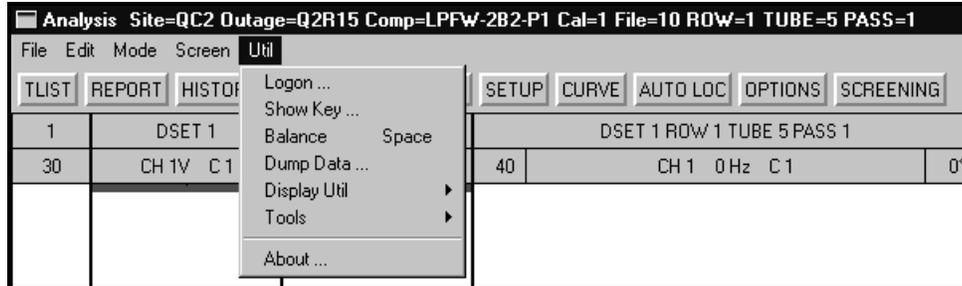
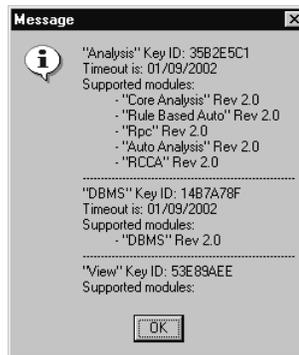
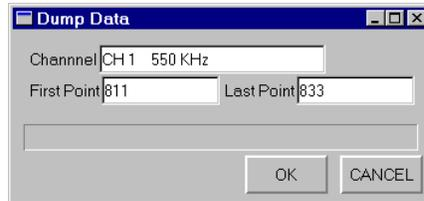
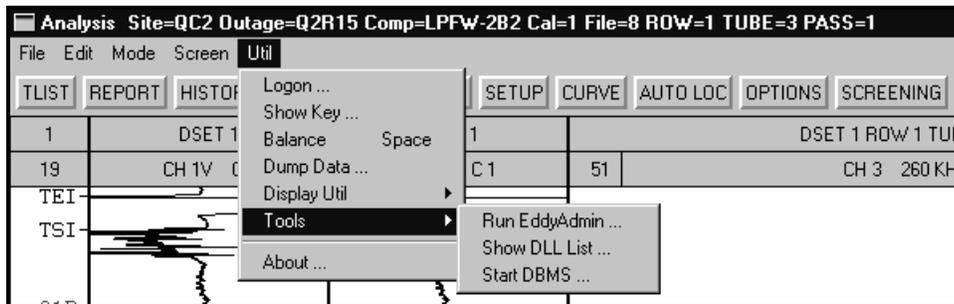

Figure 3-21. Util Menu
Figure 3-23. Show Key Message Box
Figure 3-24. Dump Data Window
Figure 3-27. Tools Fly-out
As shown in Figure 3-21, the **Util** menu contains seven (7) items. **Util** is an abbreviation for *Utilities*. Each menu choice is explained in detail in the following paragraphs.
- **Util > Show Key ...:** Selecting the **Util > Show Key ...** menu item in Figure 3-21, causes the system to examine the HASP® security key(s) currently connected to the computer. Information about the key(s) is collected and reported in a message box similar to the one shown in Figure 3-23. Security key information includes the **Key ID** number(s), the **Timeout** date(s), and the CoreStar software (**Supported modules**) that can be used with each key. This information should be checked if an error message box, similar to the one shown in Figure 2-8, appears.
- ❑ **Util > Balance:** Selecting the **Util > Balance** menu item in Figure 3-21, causes the system to balance or null the eddy current data displayed in the Lissajous window. The software balances the data based on the data point where the centerline of the cursor is located. The shortcut key on the keyboard for **Balance** is the space bar as shown in Figure 3-21. Alternatively, **right-clicking** in any Lissajous will balance the data as well.
- ❑ **Util > Dump Data ...:** The **Util > Dump Data ...** menu item in Figure 3-21 displays the dialog shown in Figure 3-24. Using this interface, selected segments of eddy current data for a particular channel can be saved in binary file format. Files are saved to the *x:\corestar\data\_dumps* subdirectory with the extension *.dmp*, where 'x' is the drive on which the CoreStar analysis software is installed. This function and the resulting files are primarily a research tool and serve no practical application for typical eddy current analysis. For more information regarding the **Dump Data ...** feature, contact the Irwin, PA office.
- **Util > Tools:** Selecting the **Util > Tools** menu item in Figure 3-21 causes a fly-out menu to appear as shown in Figure 3-27. Each item is discussed in detail below.
- **Util > Tools > Start DBMS ...:** Selecting **Start DBMS ...** from the **Util > Tools** fly-out menu shown in Figure 3-27 simply starts the EddyVISION32 DBMS (Database Management) Software. The software and a valid security key for the DBMS software module must be installed on the computer in order for the DBMS software to run.
- **Util > About:** Selecting the **Util > About** menu item shown in Figure 3-27 displays a dialog containing information *about* the EddyVision32 software currently installed on the computer, including: version identification, build date/time, copyright, and contact information.